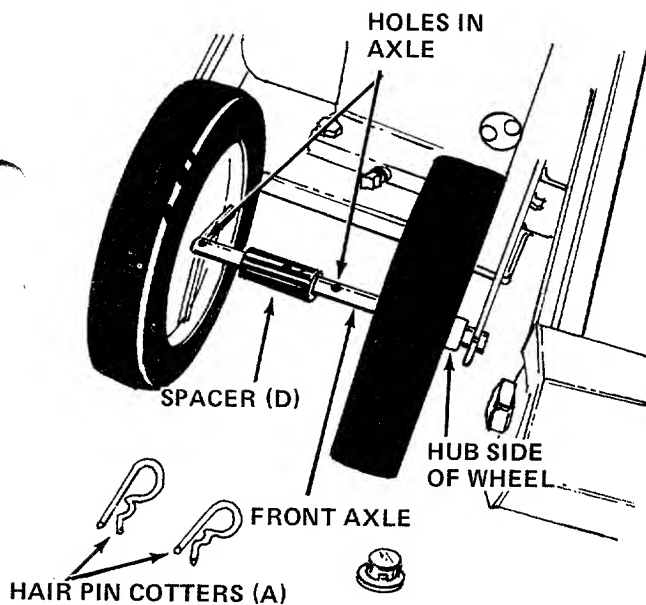
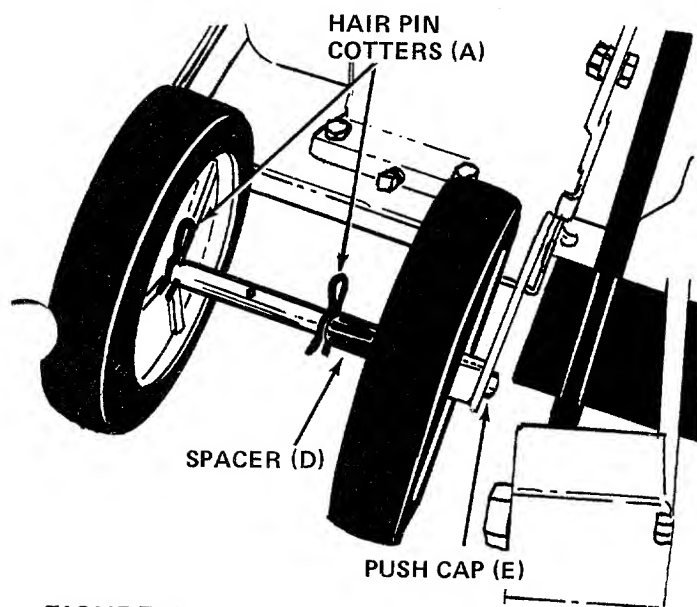

FIGURE 4
FIGURE 5
4. Starting on the right side of the edger, place the axle through the support arm on the frame. Then place axle through one wheel so the hub of the wheel is to the outside of the unit. Next place axle through spacer (D), the other wheel (hub to the outside of the unit) and through second support arm. See figure 4. Secure with push cap (E) by tapping it on with a hammer. See figure 5. It is necessary to hold a block of wood or a second hammer against the push cap on the other side of the axle.
5. Secure the front wheels and axle in position using two hairpin cotters (A). See figure 5.